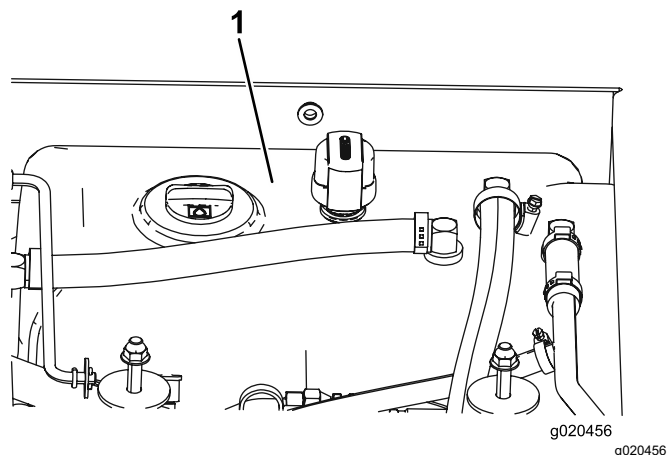

Figure 86
4. Fill the reservoir (Figure 86) with hydraulic fluid; refer to Checking the Hydraulic Fluid (page 73).